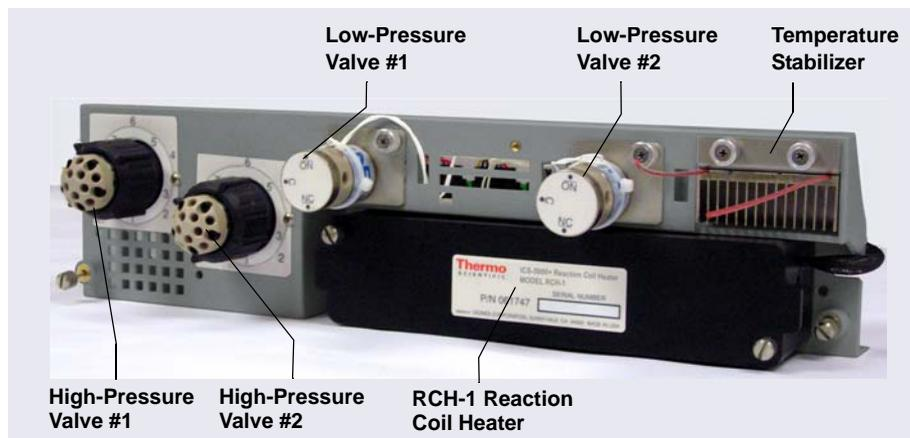

Figure B-24. Dionex ICS-5000⁺ Automation Manager: Example Configuration
The AM consists of a tray for installation of valves and other components that are used for performing matrix elimination, large volume preconcentration, and other functions (see Figure B-24). The AM is installed into the upper compartment of the DC.
2. Slide the temperature stabilizer into the opening and tighten the captive thumbscrews (see Figure B-24).